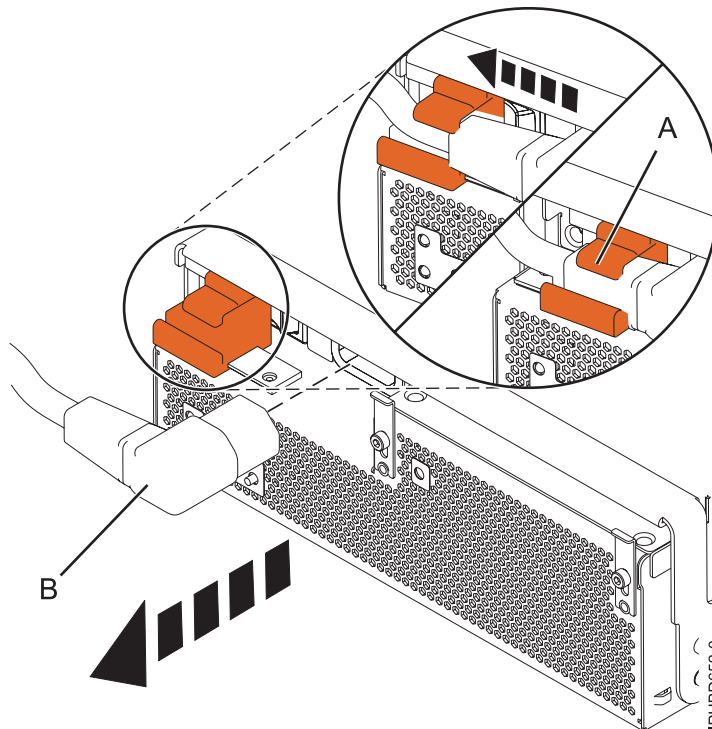

Figure 8. Disconnecting the power cable from the front of an expansion unit
6. At the front of the expansion unit, slide the cable retention bracket for the power supply that you want to remove, to the open position (A). Disconnect the cable (B) as shown in Figure 8.